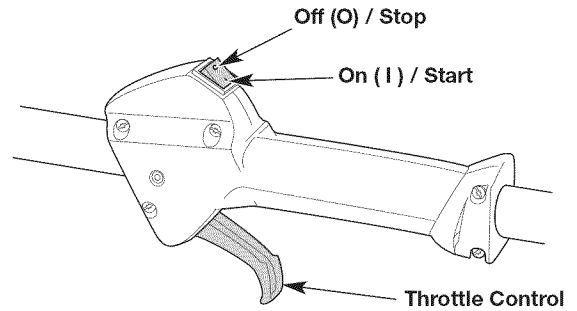
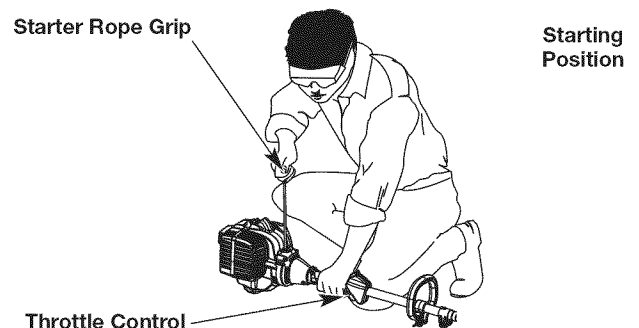

Fig. 7
Fig. 10
WARNING: Avoid accidentally starting the unit. To avoid serious injury, the operator and the unit must be in a stable position when pulling the starter rope (Fig. 10).
NOTE: There is no need to turn the unit on. The On/Off switch is in the ON (I) position at all times (Fig. 7).
5. Crouch in the starting position (Fig. 10).
6. **DO NOT** squeeze the throttle control (Fig. 7). Pull the starter rope with a controlled and steady motion until the unit starts (Fig. 10).
2. Press and hold the On/Off switch in the OFF (O) position until the engine comes to a complete stop (Fig. 7).
6. **DO NOT** squeeze the throttle control (Fig. 7). Insert the Speed Start™ accessory into the Speed Start™ port (Fig. 21). Refer to the *Operation* section of the Speed Start™ accessory operator's manual.